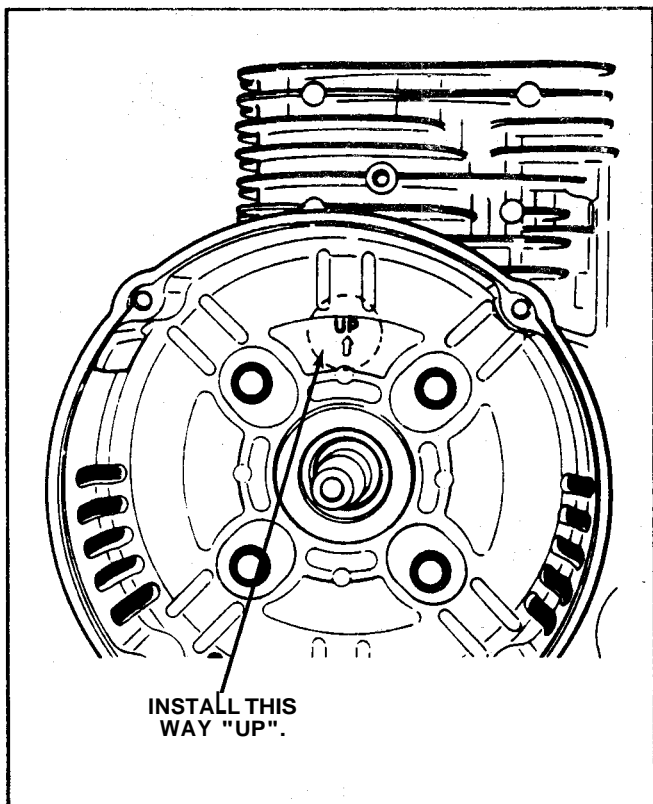

Figure 109
18. Install the generator front bracket. The bracket should be installed with the "up" mark of the inner surface of the bracket facing up. See Figure 109.